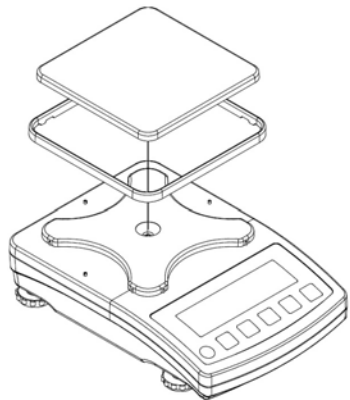

Fig. 4. Balance installation
- C. Install the weighing pan and anti-draft shields in accordance with fig.4.